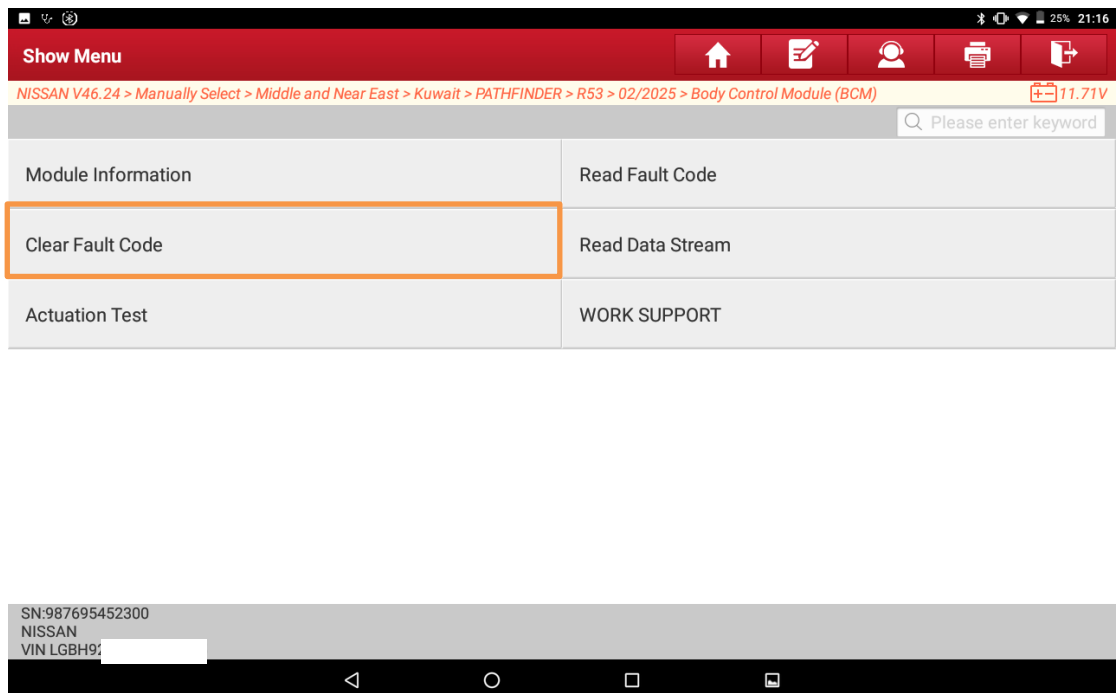

Figure 21
14. Return to the BCM menu interface, choose [Clear Fault Code], click "Yes", and then click "OK" to clear the DTC information (Figure 21).